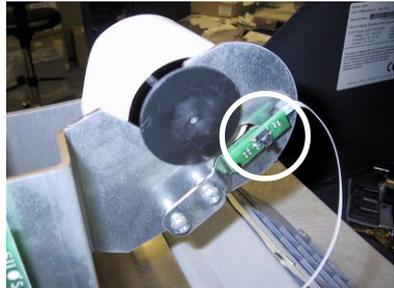

Figure 6-2. Paper feed button location.
3. Use the receipt printer feed button (as shown in Figure 6-2) to feed the paper through the paper path until all paper comes out the front of the printer.